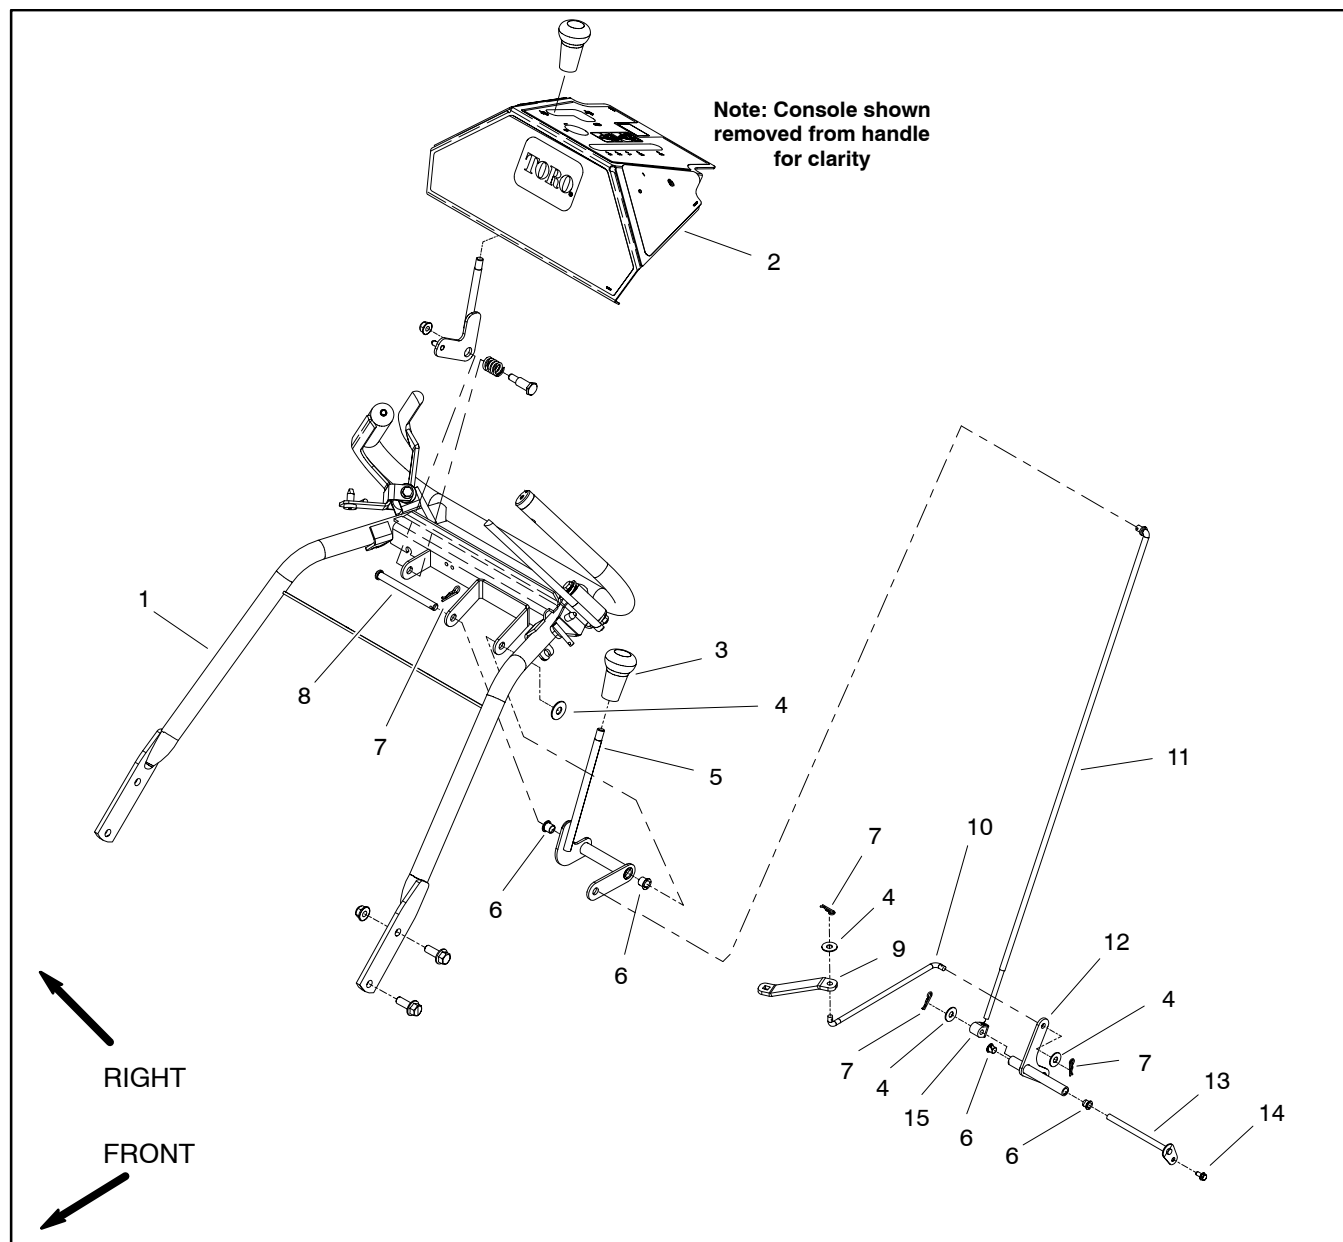

Figure 3
### **Disassembly (Fig. 3)**
2. Disassemble shift linkage components as needed using Figure 3 as a guide.
### **Assembly (Fig. 3)**
1. Assemble shift linkage components using Figure 3 as a guide.
2. After assembly of shift linkage components, make sure that console shift lever movement allows correct transaxle shifting. If necessary, adjust rod fitting (item 15) location on control rod for proper shifting.